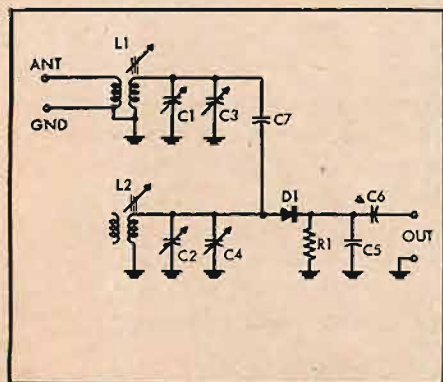

Fig. 1. A simple high fidelity AM tuner.
A. Here is one designed by the author and used successfully by him for some years. It is simple and low-cost but yet possesses excellent fidelity. As can be seen from Fig. 1, this is nothing more than the old-fashioned crystal set with an additional tuned circuit to improve its selectivity. The output of the receiver is quite low, so it must be fed into a high-gain microphone input to obtain sufficient listening level.
**Construction:** The unit may be built into one of the standard aluminum utility boxes, easily obtainable from any radio supply house. Be sure that coils  $L_1$  and  $L_2$  are shielded from each other, so that coupling can exist only via  $C_7$ . It would be best to use coils which are already shielded; however, the shield can take the form of a strip of metal placed vertically between the two coils, and grounded to the box. Electrically insulate the variable capacitor,  $C_1$ - $C_2$ , from the box. Run a piece of braid or bus wire from each wiper to separate points on the box. Make all ground connections for  $L_1$  to the point where the wiper for  $C_1$  is grounded; make all other ground connections to the point where the wiper for  $C_2$  is grounded.  $C_3$  and  $C_4$  should be mounted directly across  $C_1$  and  $C_2$  if possible.  $C_7$  is a capacitor made by twisting two pieces of insulated wire together. The gauge of the wire and the thickness of the insulation are not critical. One end of the pair is dead-ended, making sure there is no electrical contact between the wires. The other end of the twisted pair is connected as shown in Fig. 1. The twisted pair should be 6 to 8 inches long at the beginning of the alignment process.
**Alignment:** (1) Connect the antenna, ground, and amplifier to their proper terminals. (2) Locate a station at the high end of the band and adjust  $C_3$  and  $C_4$  for maximum output as heard through the loudspeaker. (3) Locate a station at the low end of the band and adjust the slugs of  $L_1$  and  $L_2$  for maximum output. (4) Repeat Step (2).